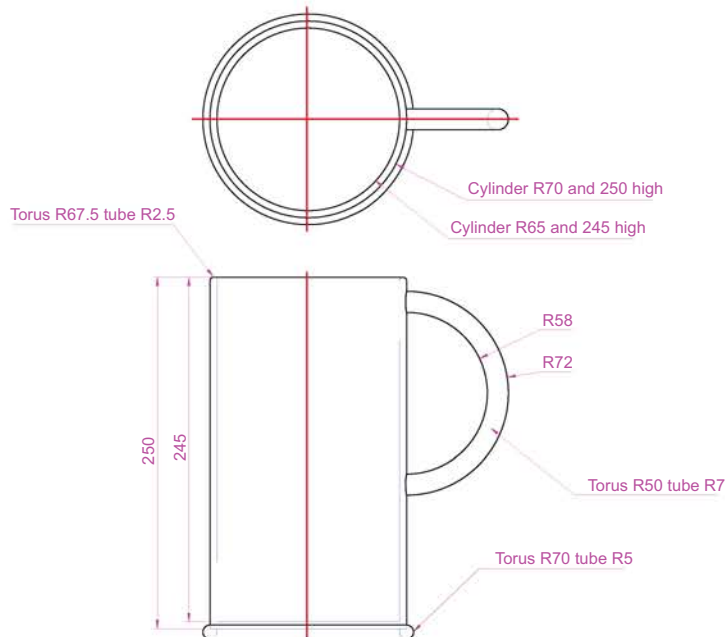

Fig. 11.40 Exercise 4
4. Construct a solid of revolution of the jug shown in the orthographic projection (Fig. 11.40). Construct a handle from an extrusion of a circle along a semicircular path. Union the two parts. Place the 3D model in a suitable isometric view and render.